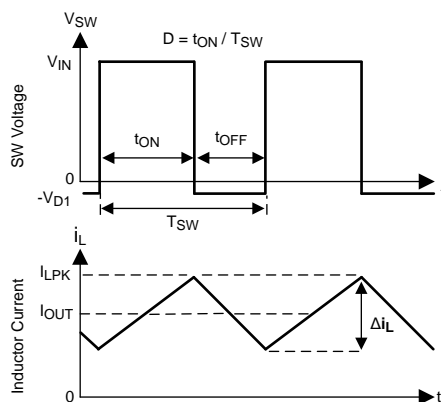

Figure 25. SW Node and Inductor Current Waveforms in Continuous Conduction Mode (CCM)
The following operating description of the LM43602 will refer to the Functional Block Diagram and to the waveforms in Figure 25. The LM43602 is a step-down Buck regulator with both high-side (HS) switch and low-side (LS) switch (synchronous rectifier) integrated. The LM43602 supplies a regulated output voltage by turning on the HS and LS NMOS switches with controlled ON time. During the HS switch ON time, the SW pin voltage V_{SW} swings up to approximately V_{IN} , and the inductor current i_L increases with a linear slope $(V_{IN} - V_{OUT}) / L$. When the HS switch is turned off by the control logic, the LS switch is turned on after a anti-shoot-through dead time. Inductor current discharges through the LS switch with a slope of $-V_{OUT} / L$. The control parameter of buck converters are defined as Duty Cycle $D = t_{ON} / T_{SW}$, where t_{ON} is the HS switch ON time and T_{SW} is the switching period. The regulator control loop maintains a constant output voltage by adjusting the duty cycle D . In an ideal Buck converter, where losses are ignored, D is proportional to the output voltage and inversely proportional to the input voltage: $D = V_{OUT} / V_{IN}$.